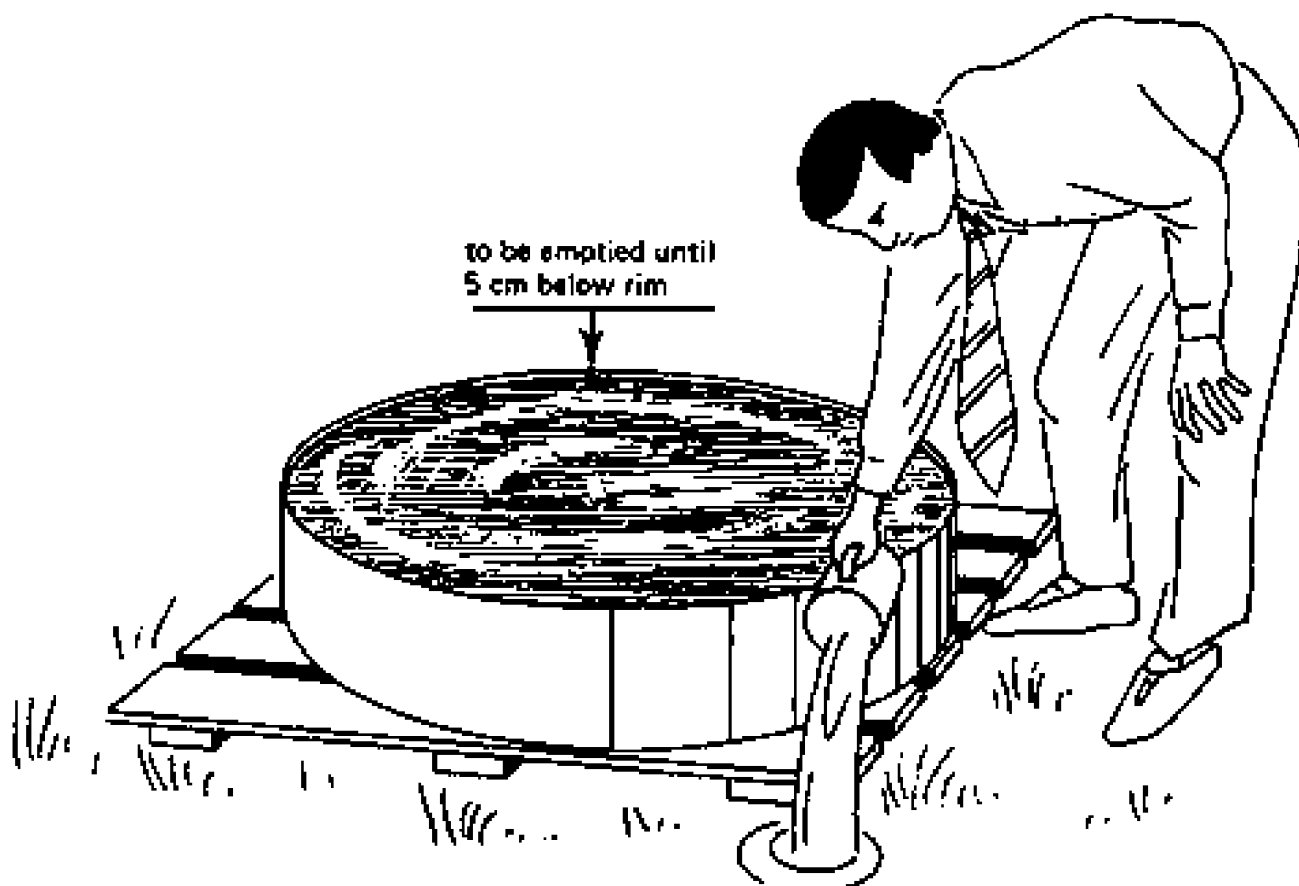

Figure 4 – Emptying water to the fixed point gauge (datum).
- Let “J” be the level of the water remaining in the measure. Add this value to the observation chart (see figure 4)